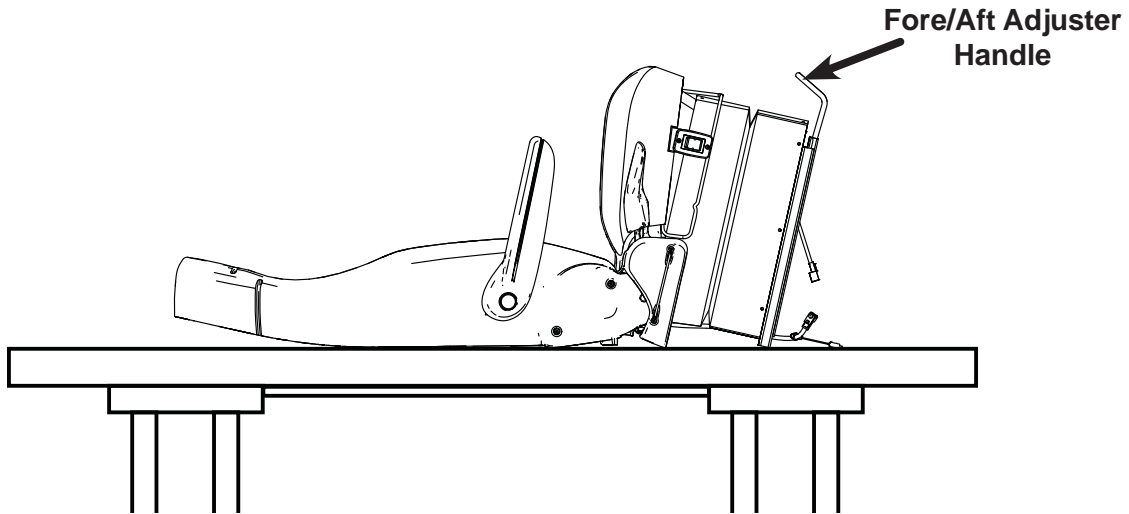

Fig. 9
12. Remove Driver seat from vehicle using rear passenger door. **Seat is HEAVY!** Obtain assistance to remove seat from vehicle and place on suitable bench that will support seat. See Fig. 9